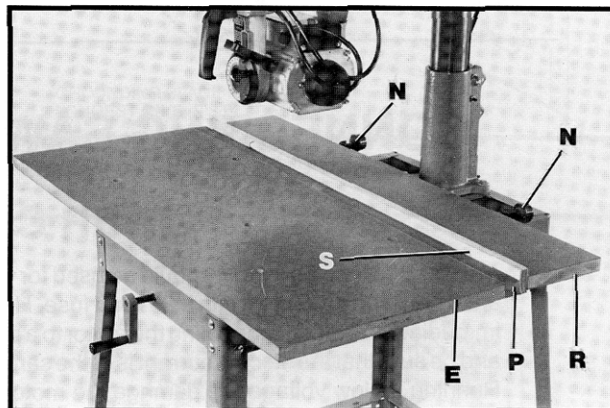

Fig. 30
9. Place the remaining two table boards (P) and (R) Fig. 30, on the table mounting brackets between the front table board (E) and table clamp knobs (N). Insert fence (S) Fig. 30, between table boards (P) and (R). Tighten table clamp knobs (N).